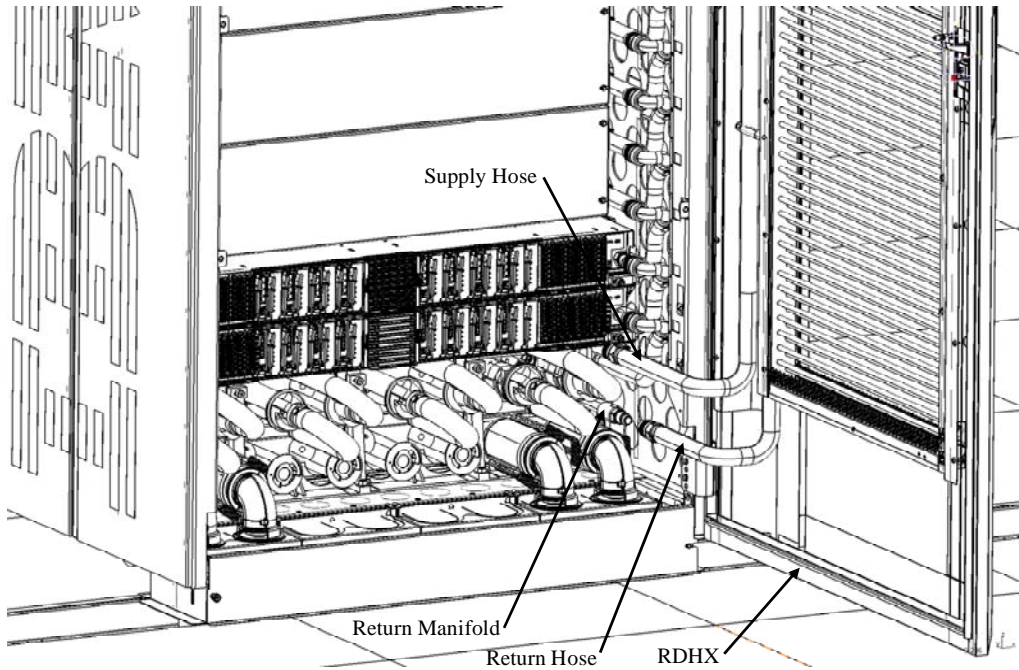

Figure 5 RDHX Return Hose disconnected
2. From the rear side of the system, disconnect the RDHX return hose (see Figure 5 RDHX Return Hose). Pull back on the ribbed collar on the quick connect to disconnect the hose.